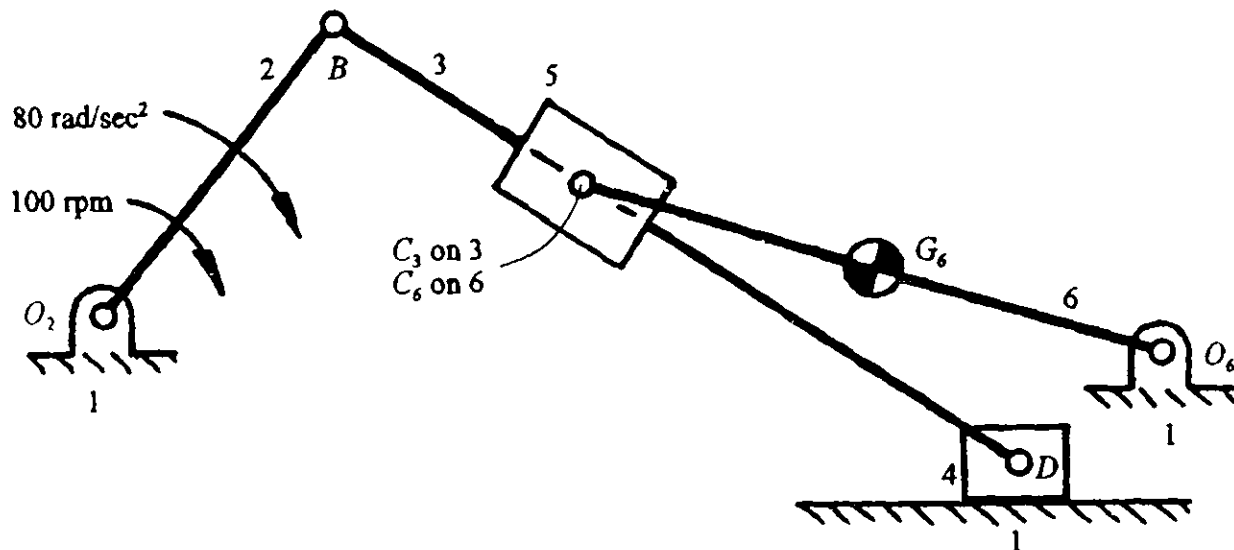

Figure P.5
- (20) 5. For the given position of the mechanism shown in **Figure P.5**, determine the magnitude and sense of the required torque to be applied to crank O_2B by the base link, to overcome the inertia of link 6.